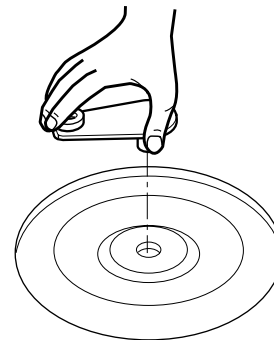

Figure 19
- (1) Remove the glass tray and Hub.
- (2) Remove the turntable shaft VERY CAREFULLY with a hand. (Figure 19)